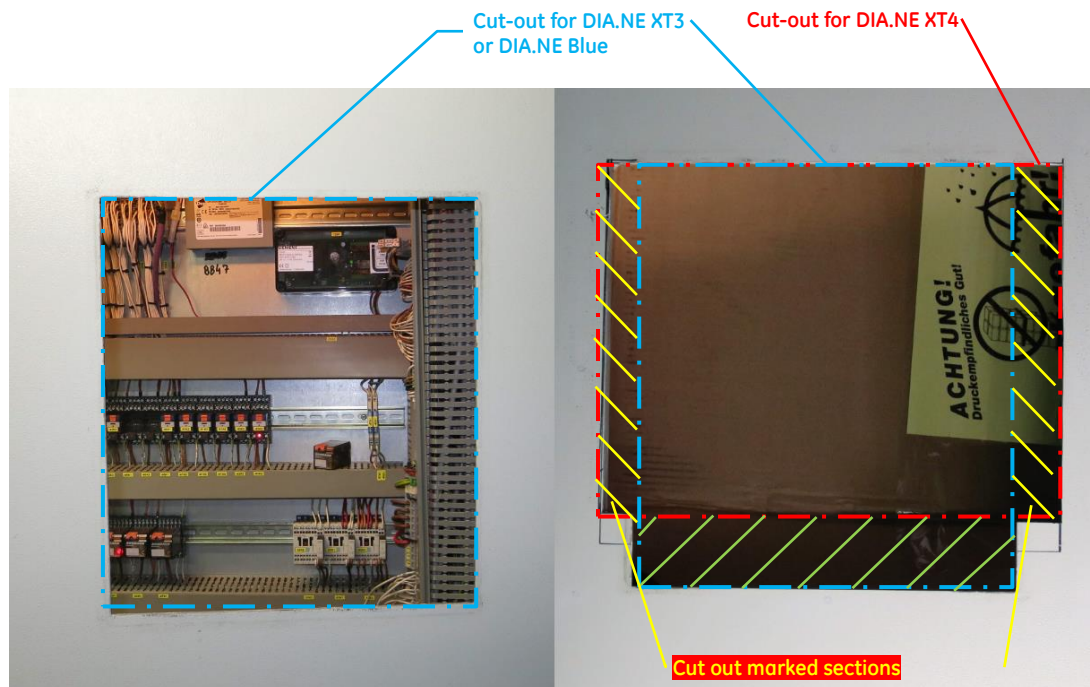

Figure 9: Modifying the fitting opening while upgrading DIA.NE XT3 to DIA.NE XT4
Where a DIA.NE XT3 is to be upgraded to DIA.NE XT4, the fitting opening for the DIA.NE XT3 has to be modified, i.e. cut-outs have to be made on the left and right so that the display unit for the DIA.NE XT4 can be installed. As the fitting opening for the DIA.NE XT3 display is higher than the opening for the DIA.NE XT4, an excess cut-out area is left which has to be covered with a frame panel (TL9020853) (green hatched area in Figure 9).
- ✓ Align the frame panel symmetrically with the existing cut-out (DIA.NE Blue, DIA.NE XT or DIA.NE XT3), creating a contour as shown in **Figure 9 - on the right** after grinding